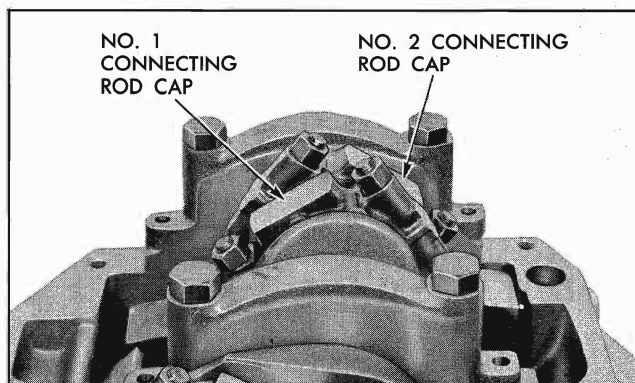

Fig. 6-61 Crankshaft Positioned for Removal of No. 1 and No. 2 Connecting Rod Caps
pin carrying bearing to be replaced straight down (Fig. 6-61).
3. Rotate crankshaft so crank pin carrying assembly to be replaced projects straight downward (Fig. 6-61).